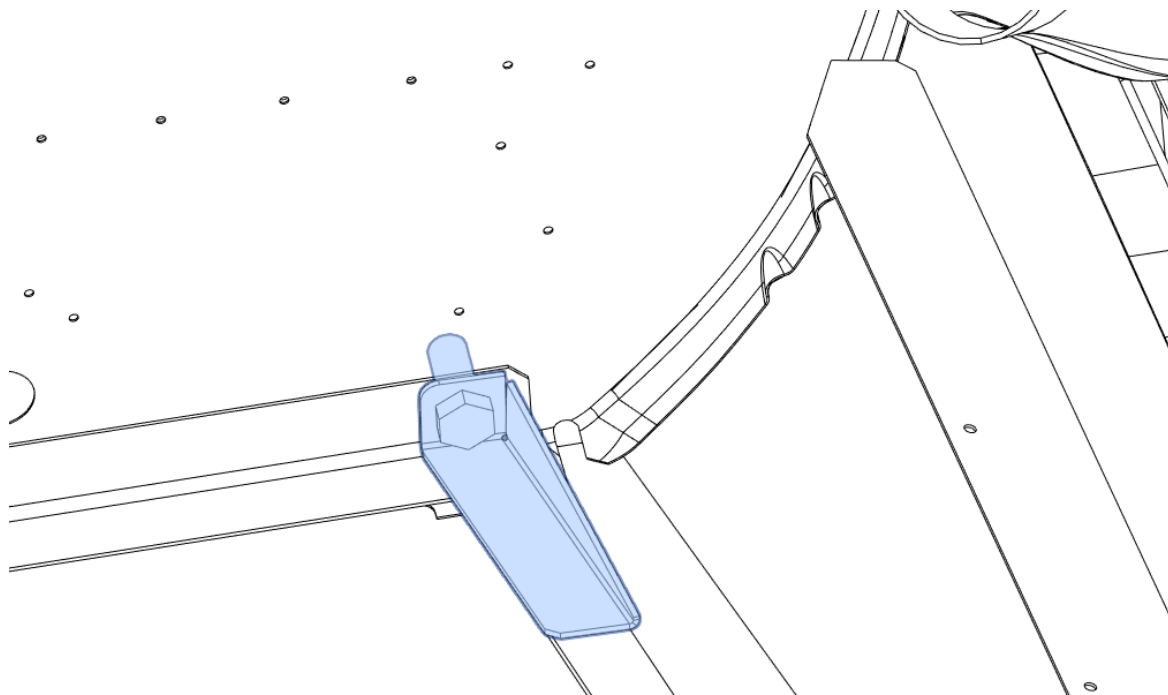

Fig. 2: Lower engine hinge
- 6) Remove the old lower engine hinge from the cabin. See the Fig. 2.